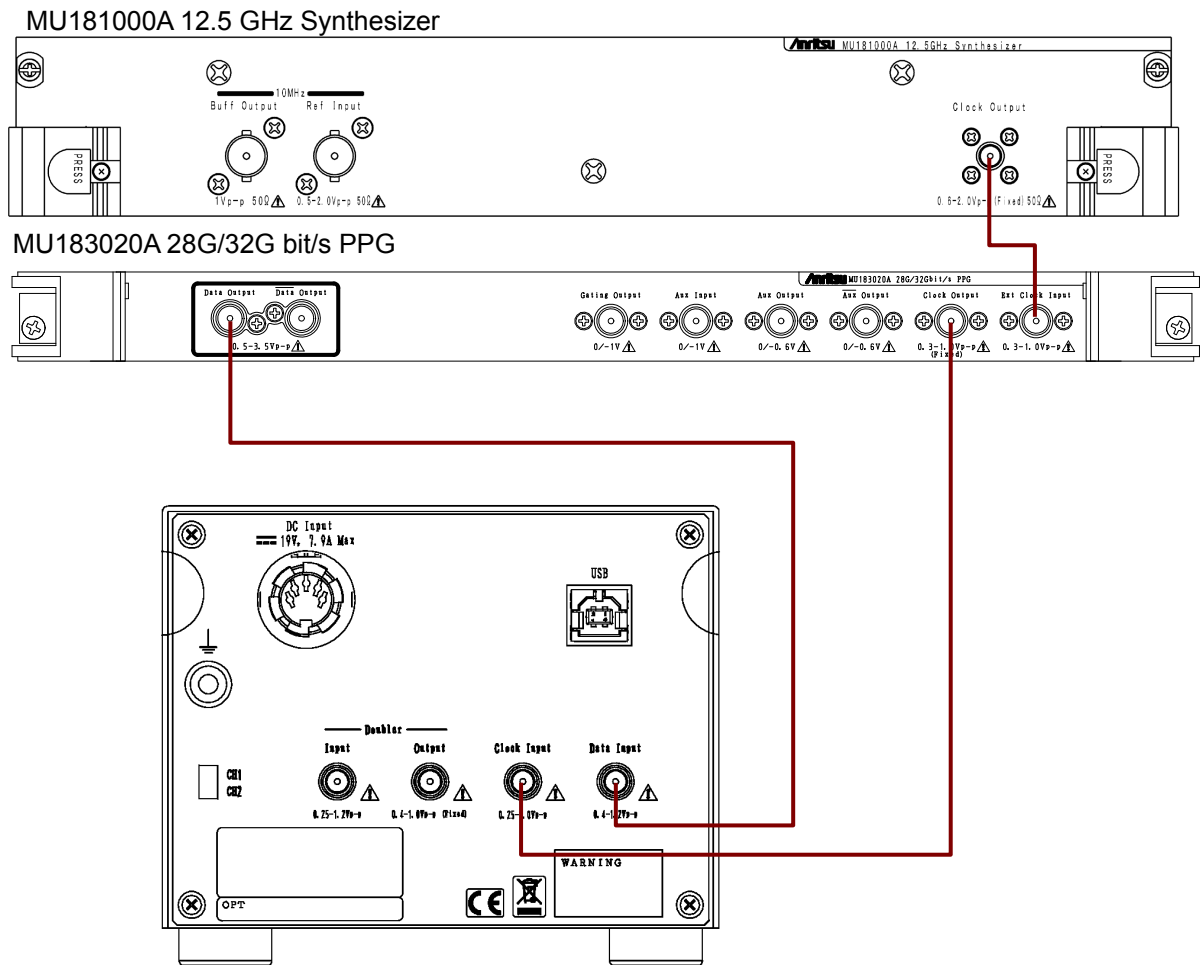

Figure 3.3-6 Connection to MU183020A 28G/32G PPG (Bit rate 2.4 to 14 Gbit/s)
- For connection shown in Figure 3.3-6, set Output Clock Rate of MU183020A as **Full rate**. For MU183020A setting method, refer to Chapter 5 "Operation Method" in the *MU183020A 28G/32G bit/s PPG MU183021A 28G/32G bit/s 4ch PPG Operation Manual*.